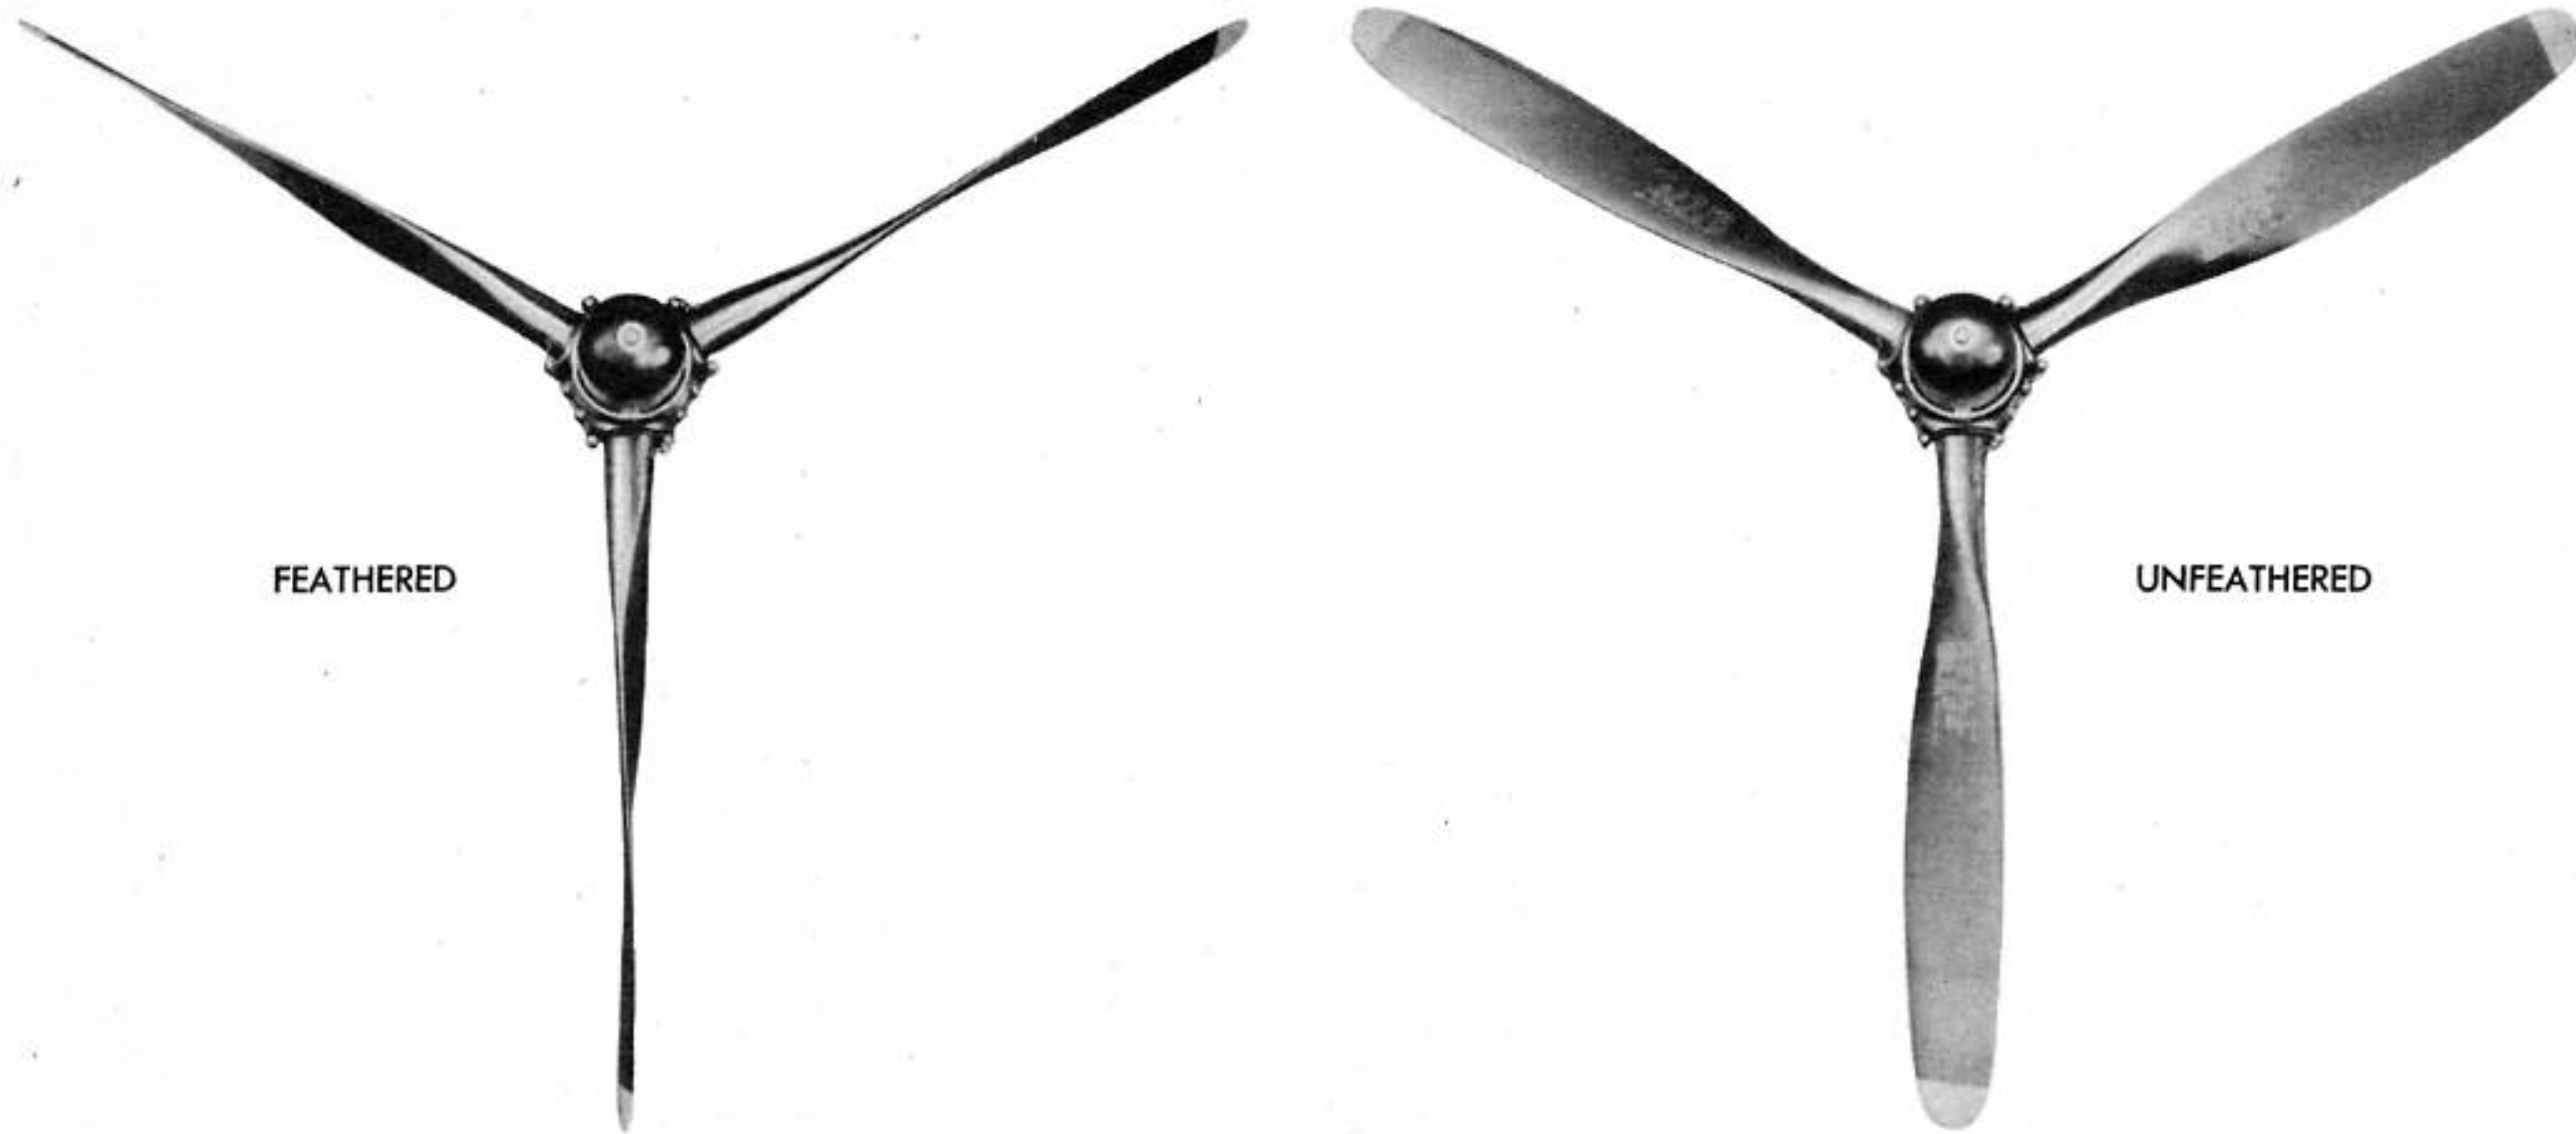

Figure 113 - PROPELLERS FEATHERED AND UNFEATHERED
(1) GENERAL. (See figure 113.) - Each engine is equipped with a Hamilton Standard, hydromatic, full-feathering propeller. The nominal diameter of each propeller is 11 feet 4 inches. Each propeller consists of a 23E50 hub and three 6353A-21 blades. A propeller anti-icer system is provided.